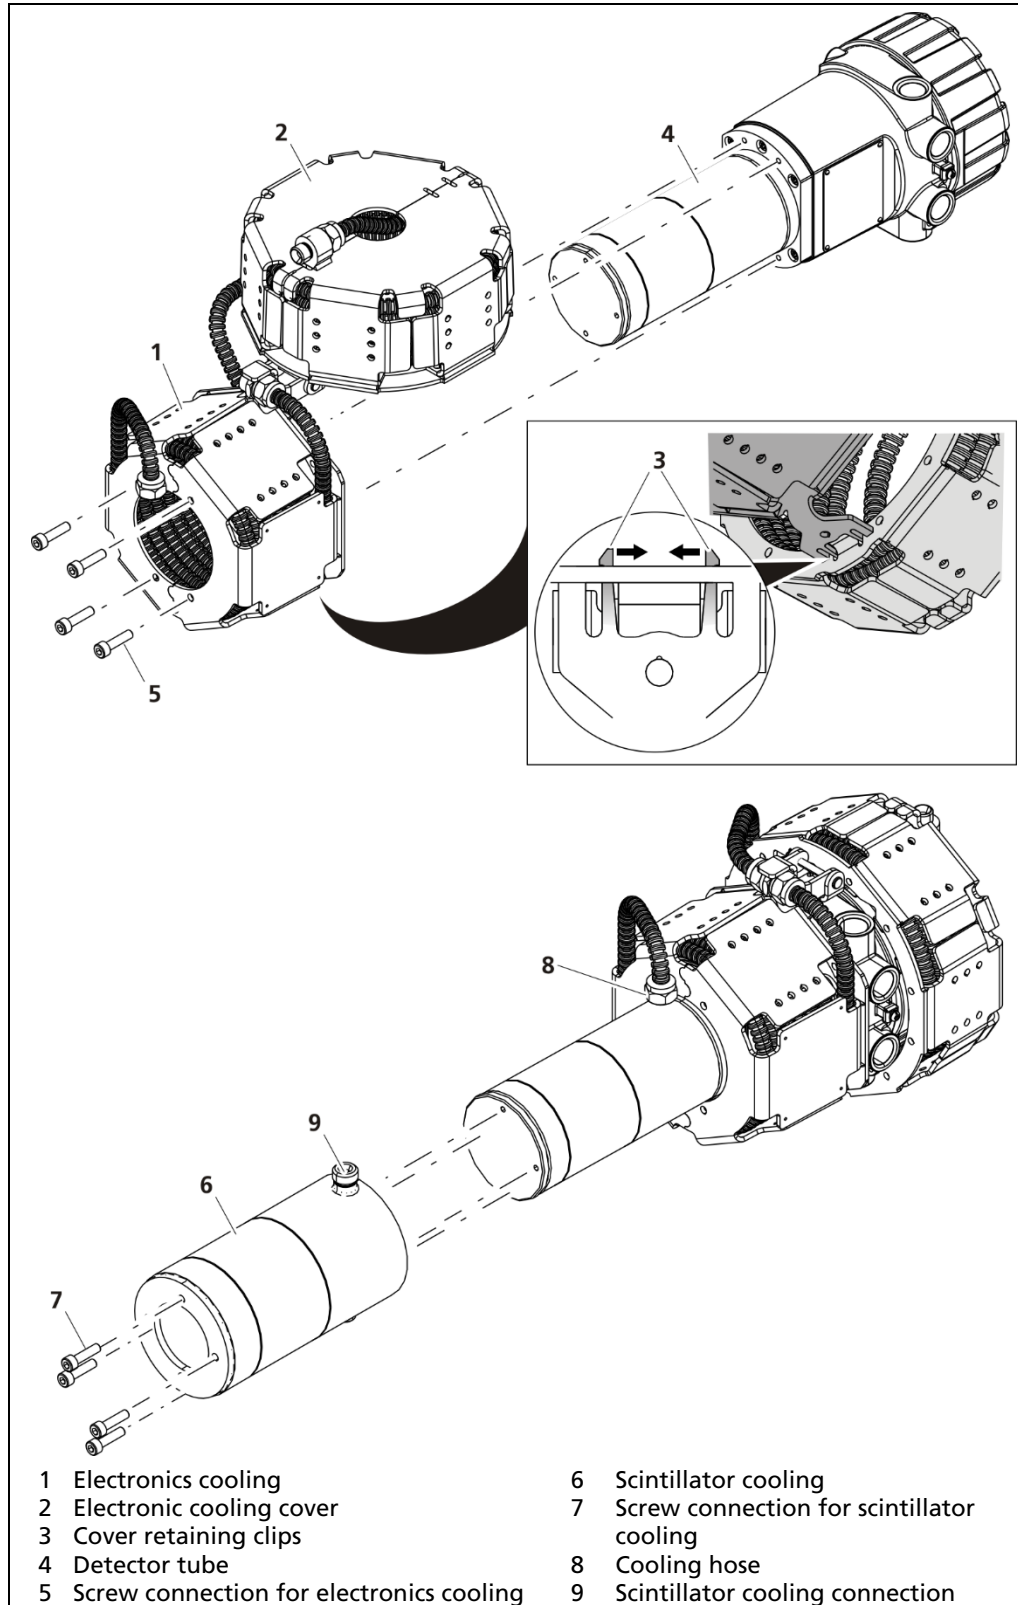

Fig. 16 Mounting the water cooling system
- If the detector is mounted horizontally, the lower connection (Fig. 16, left) must be used for the water inlet.
- If the detector is mounted vertically (Fig. 16, right), the connection housing must be oriented upwards so that the connections are at the upper end of the water cooling system.